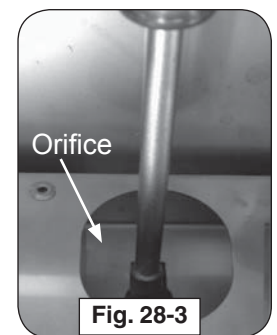

Fig. 28-3
4. Use a $\frac{3}{8}$ " hex nut driver to remove the exposed orifice (Fig. 28-3). Check orifice. If needed, replace it with the correct orifice for the new gas.